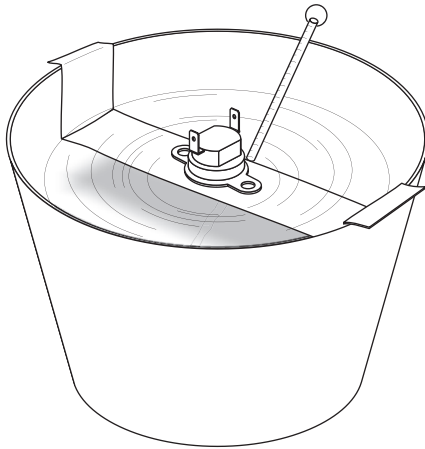

Figure 151. Testing the Oil Temperature Switch
7. Immerse the sensing tip of the switch in oil as shown in Figure 151, along with a suitable thermometer.